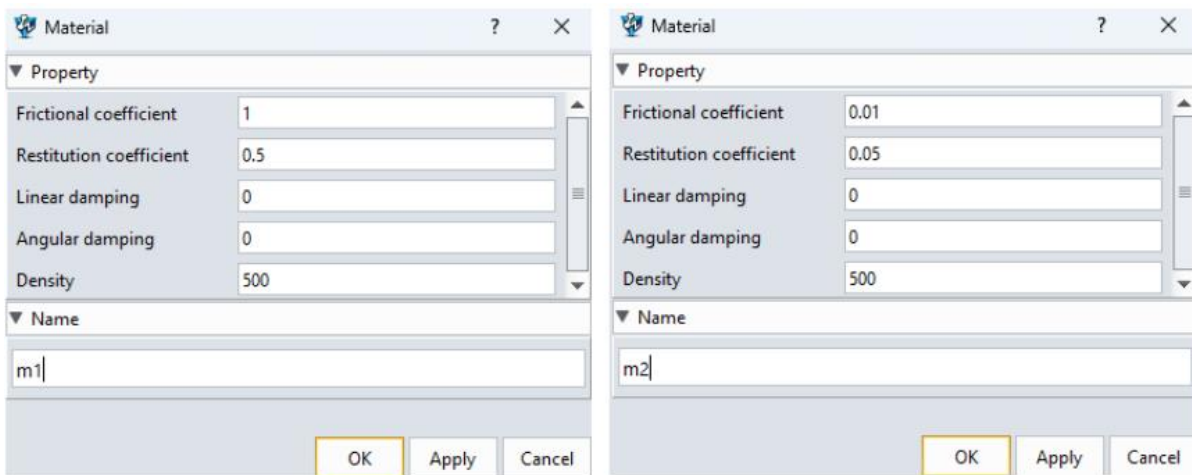

Figure 13-7: Materia1 and Materia2
- Define two materials: "Material1" and "Material2".(Figure 13-7)
- Assign specific values for friction coefficient, restitution coefficient, linear and angular damping for each material.(Figure 13-7)